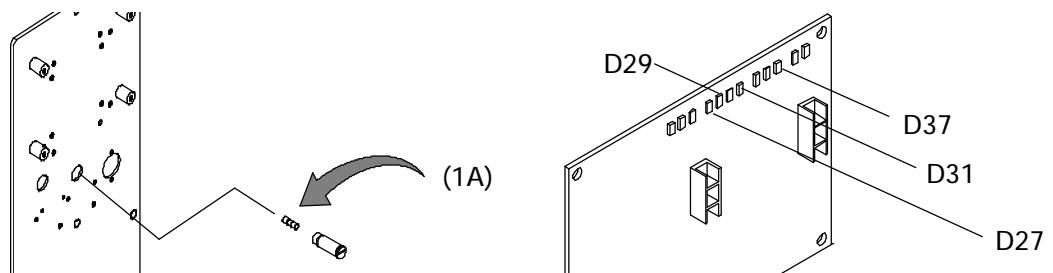

Fig. 24
c) If the led DL5 does not light up, but the leds D37 (corresponding to the microswitch of the right handle) and the led corresponding to the push-button pressed on the left box (D29 or D30 or D31) light up regularly check and if necessary replace the fuse (code 02001434, tav. 7) and at last the printed circuit board (code 02E03947, tav. 7). If the leds D29, D30, D31 and D27 do not light up regularly, check the wiring between the push-button micro switches and the printed circuit board as well as the microswitches (code 02E03927, tav. 2) (Fig. 24).
c) If the led D37 does not light up, but the leds D27 and D31 light up regularly, check and if necessary replace the fuse (code 02001434, tav. 7) and at last the printed circuit board (code 02E03947, tav. 7). If the led D27 and D31 do not light up regularly, check the wiring as well as the micro switches (code 02E03927, tav. 2) (Fig. 24).